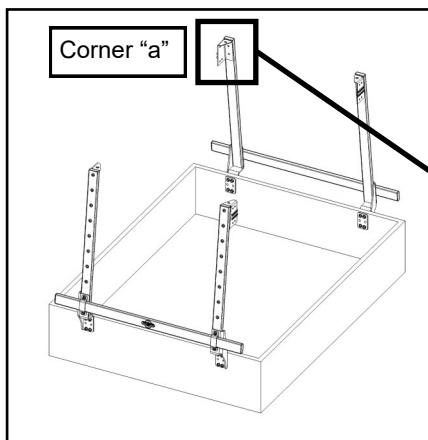

Fig. 5
- See fig. 5. Install the cross bar mounting brackets to the top inboard side of each vertical tube in the orientations shown.